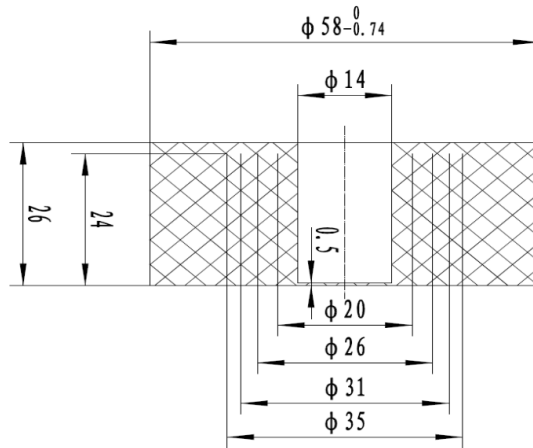

Fig 2
4.12 External diameter of the cable should fit bore diameter of the seal ring (Figure 2). The diameter gap should not exceed 1mm. Clamp the connection plug and ensure that there is no clearance between seal ring and power cable as well as between seal ring and connection box body, otherwise the motor will lose its explosion-proof function.